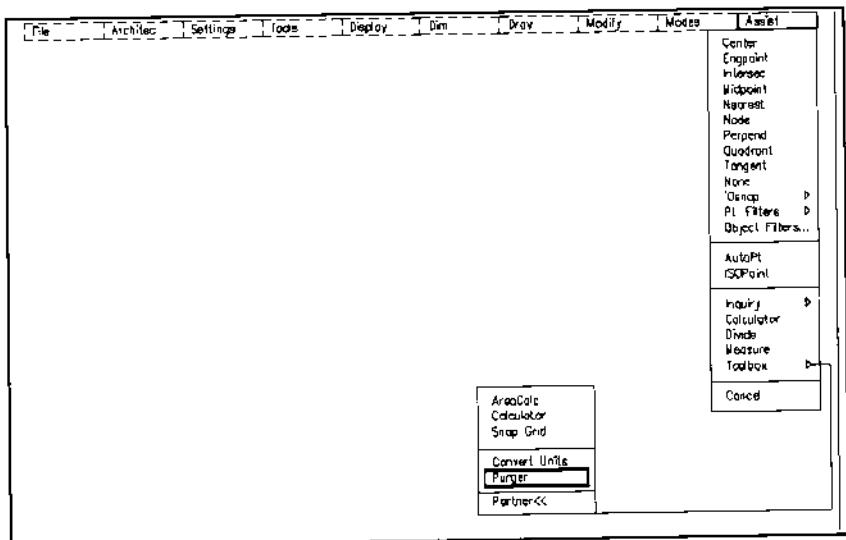

Figure 9.
6. Purge these unused erased layers using the Purger command from the Assist pull-down menu under Toolbox as shown in Figure 9.